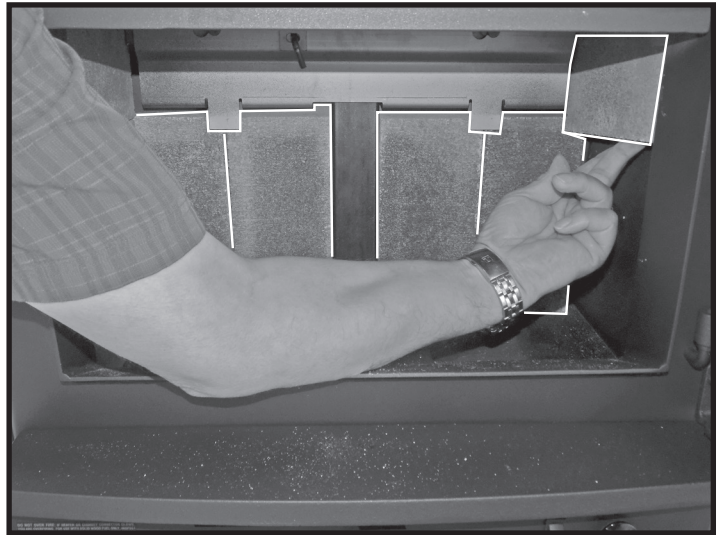

Figure 19: Upper side brick position.
2. For the bricks on the sides, turn one brick so that it is horizontal. Lift it up so that it makes contact with the firebox ceiling (Figure 19). Hold it in place while next installing one of the two other side bricks vertically.